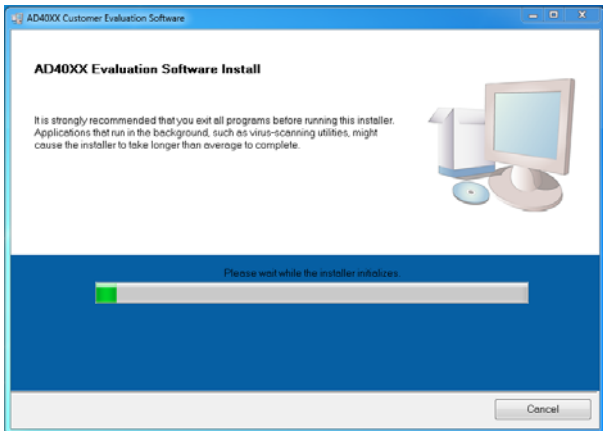

Figure 4. **AD40XX Evaluation Software Install Window**
3. Begin installing the evaluation software by clicking the **setup.exe** file. The software installation window opens as shown in Figure 4.